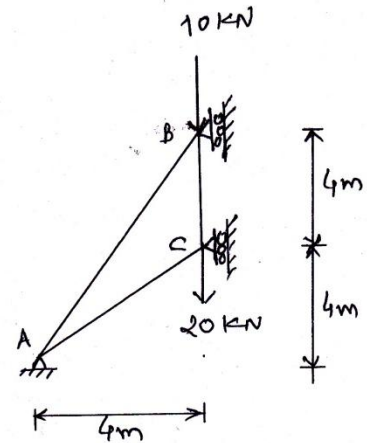

Figure 2
- Q.2** (a) Obtain rearranged joint stiffness matrix for a plane truss shown in Figure 2. **07**
- (b) Calculate free joint displacements and member end forces for the above truss shown in Figure 2. **07**